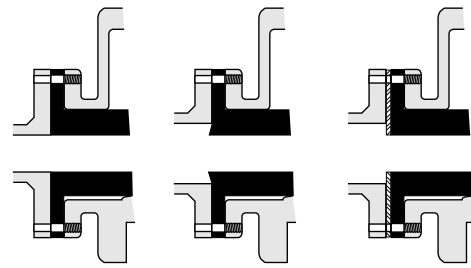

Figure 1
1. **Double Wall Sleeves** have triple the life expectancy in severely abrasive installations. The extra thickness requires the next larger flange size on the valve body to be used in order to maintain a matching port diameter (Figure 1). It is recommended that a reducing flange be purchased, or an oversized flange be installed on the pipe. This can be done by using blind flanges and boring the I.D. to suit the existing pipe. For example, on a double wall sleeve with a 6" flange and a 4" bore, the mating flange would be a 6" blind flange bored out to slip over the 4" pipe (approx. 4-1/2" dia.).